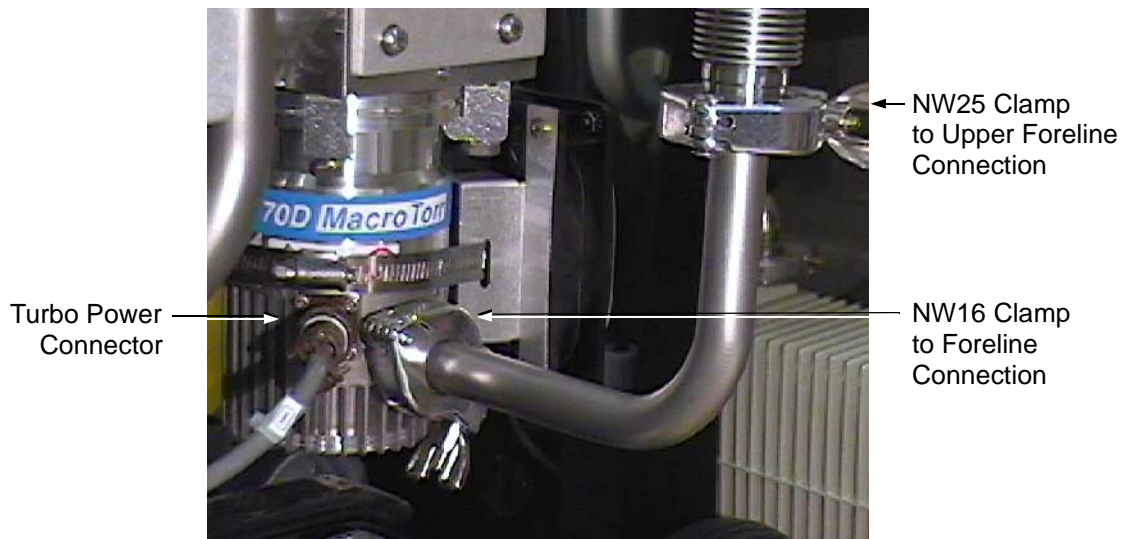

Figure B-7 Turbo Power and Foreline to Turbo Connections
3. Disconnect the power from the turbo pump by pushing the green sleeve on the end of the connector in and then turning the sleeve to release the connector (Figure B-7).
6. Loosen the wing nut and remove the NW25 clamp that connects the foreline to the turbo (Figure B-7 on page B-10).
- ❑ Loosen and remove the NW25 clamp to the upper foreline connection (Figure B-7 on page B-10).
5. If the foreline was removed from the upper foreline connection (Figure B-7 on page B-10), do the following: